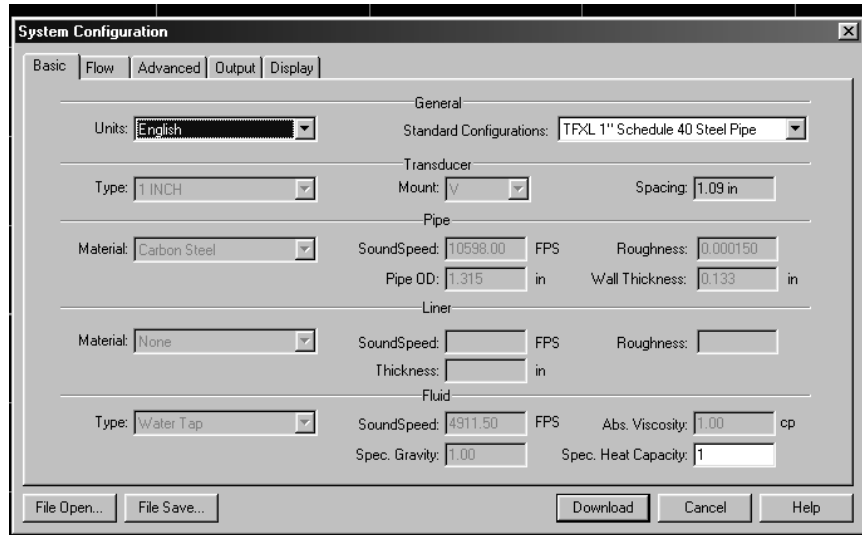

Figure 3.3
1. **BASIC TAB** — See **Figure 3.3**